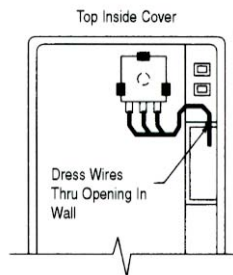

Figure 8.
3. The speed potentiometer presses into the back of the cover as shown in Figure 8. Care should be taken to ensure that the wires on the pot are positioned correctly.